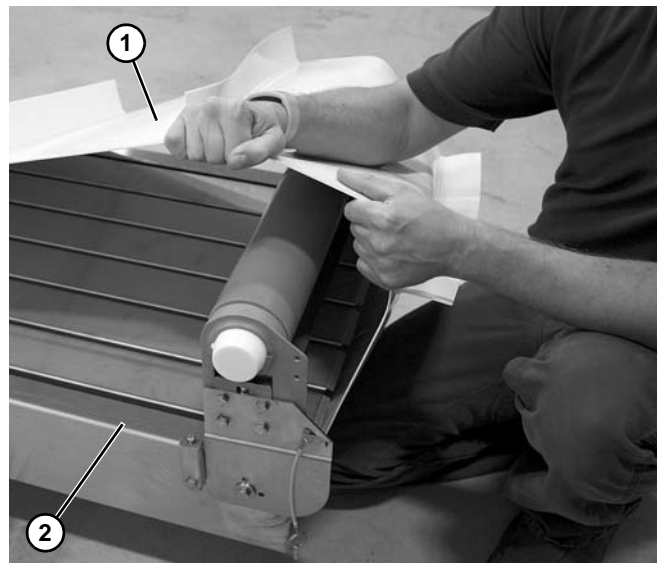

Figure 46
6. Remove the belt (**Figure 46, item 1**) from the conveyor (**Figure 46, item 2**).